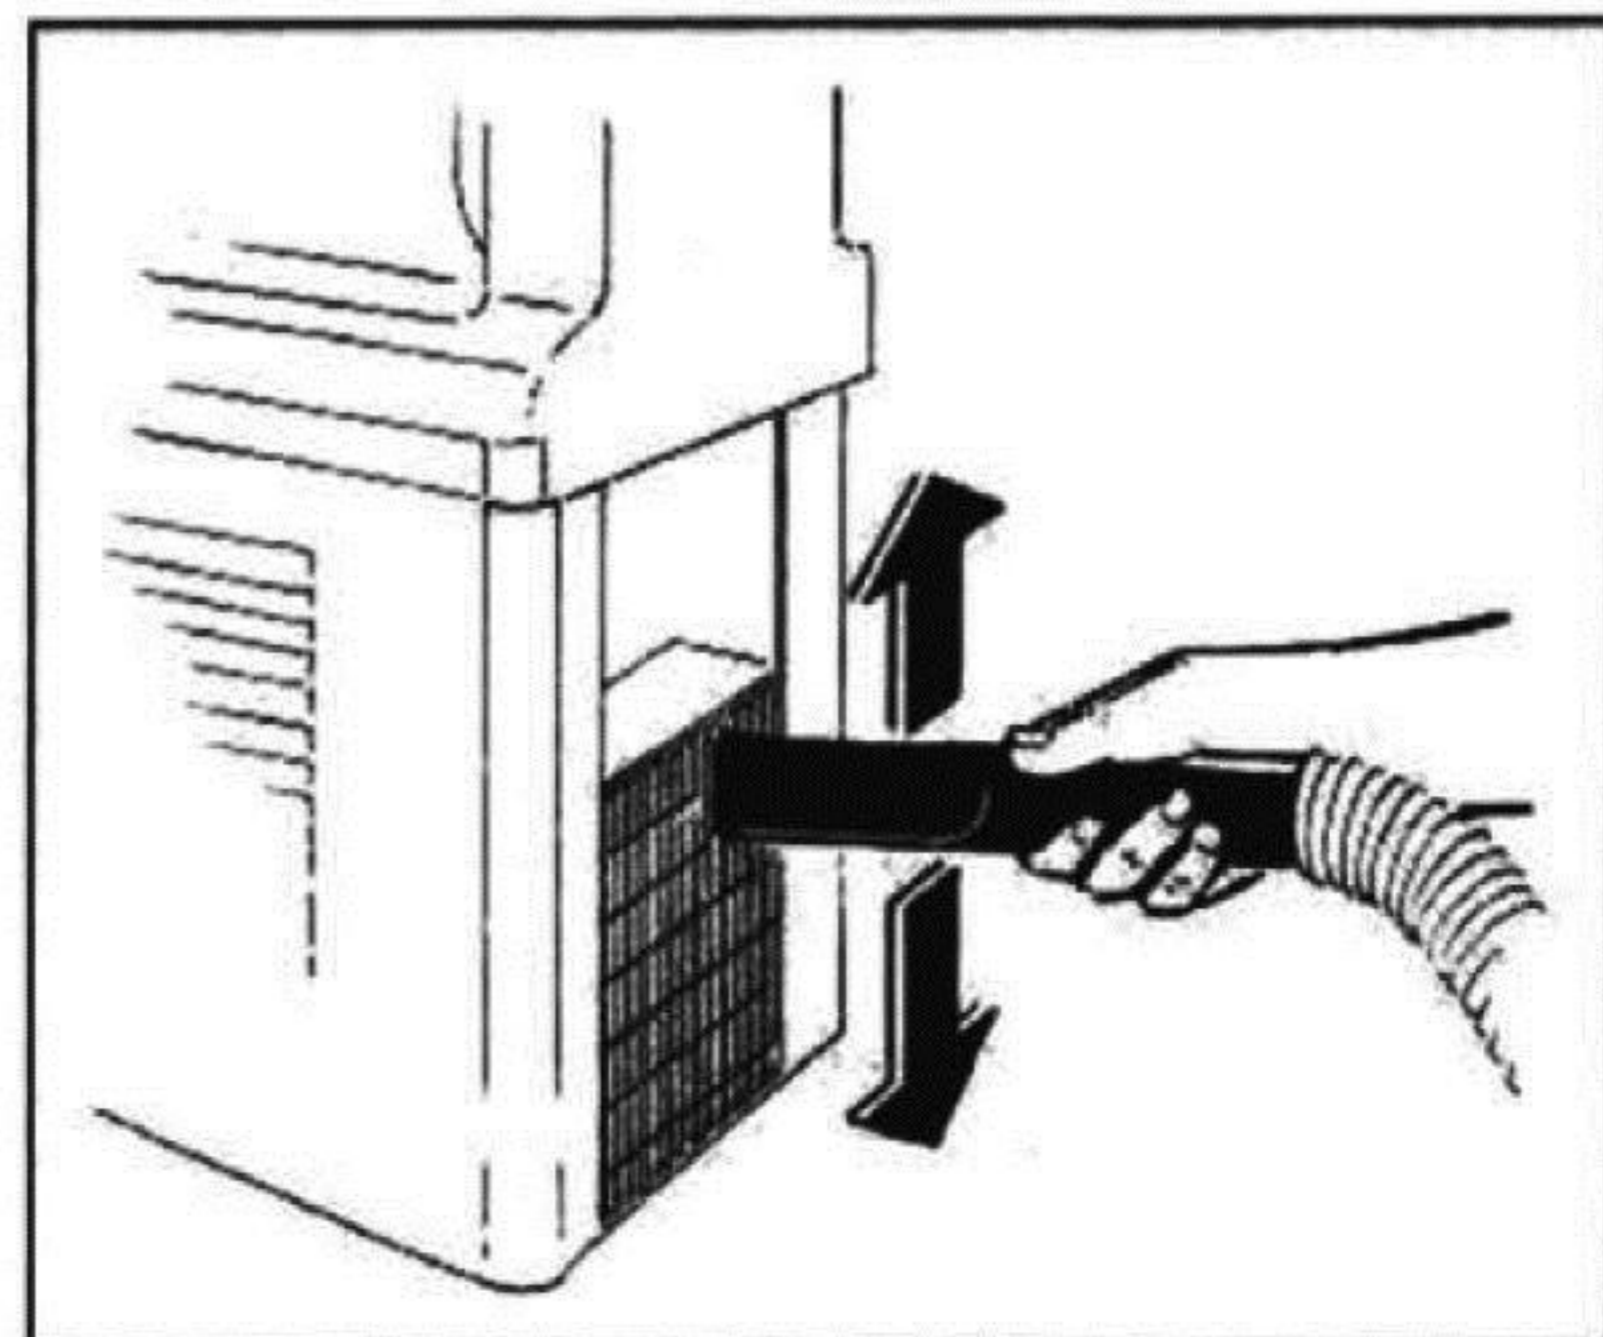

fig.43
- Using a dust exhauster, remove the dust that has collected between the condenser fins (fig.43).